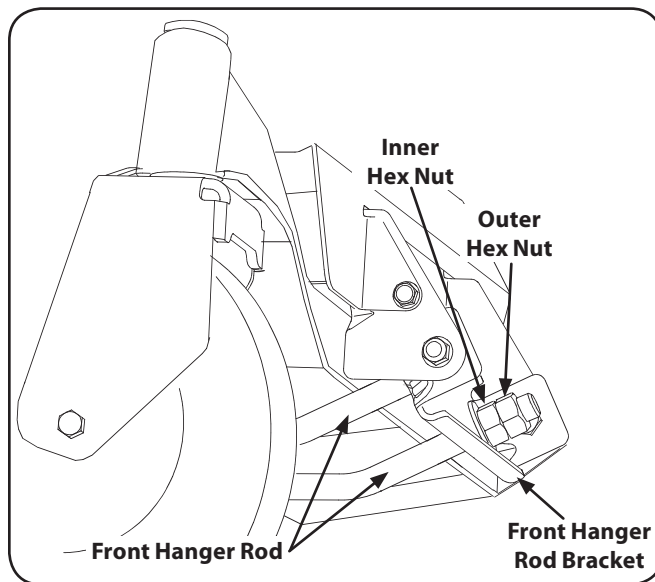

Figure 6-6
5. From the front of the tractor, loosen the outer hex nuts on the deck front hanger rod and turn them away from the inner nuts. Refer to Fig. 6-6.
6. If the front of the deck was too low, turn the inner hex nuts clockwise against the hanger bracket to shorten the front hanger rod and raise the front of the deck. Refer to Fig. 6-6.